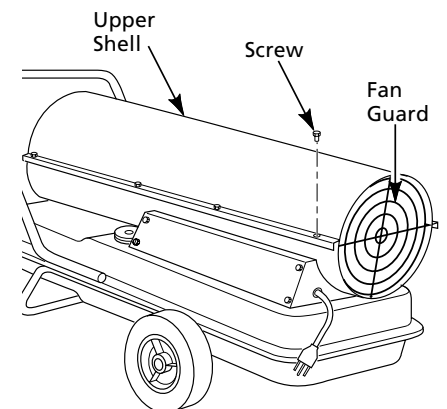
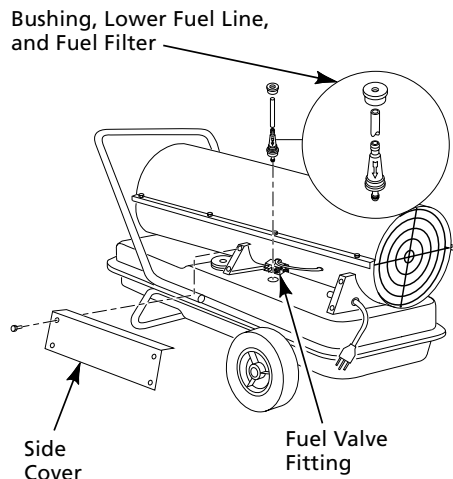

Figure 5 - Upper Shell Removal
Figure 10 - Fuel Filter Removal
- Remove screws along each side and top of heater using 5/16" nut-driver. These screws attach upper and lower shells together (See Figure 5).
- Remove upper shell (See Figure 5).
- Remove upper shell (See Figure 5, page 5).
- Remove side cover (See Figure 10, page 7).
- Remove side cover (See Figure 10), fan guard, and upper shell (See Figure 5, page 5) screws using 5/16" nut-driver.
1. Remove upper shell and fan guard (See Figure 5, page 5).
3. Remove 4 side cover screws with a 5/16" nut driver. Remove side cover (See Figure 10).
12. Replace side cover (See Figure 10).